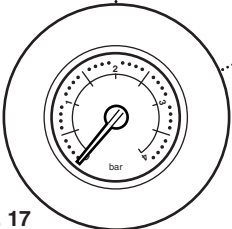

Fig. 17
4. The minimum pressure for correct operation is 0.2. If the pressure falls below 0.2, this may indicate a leak on the central heating system (Fig. 17).